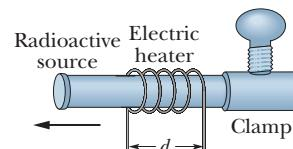

Figure 18-31 Problem 20.
- 20 GO In a certain experiment, a small radioactive source must move at selected, extremely slow speeds. This motion is accomplished by fastening the source to one end of an aluminum rod and heating the central section of the rod in a controlled way. If the effective heated section of the rod in Fig. 18-31 has length  $d = 2.00 \text{ cm}$ , at what constant rate must the temperature of the rod be changed if the source is to move at a constant speed of  $100 \text{ nm/s}$ ?